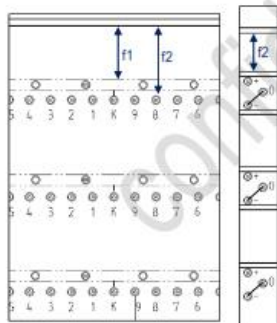

Figure 1: Tested insulation distance of the test sample. 1)
1) In case of several insulating distances of the same design all distances were tested. Figure 1 shows only examples of these distances.